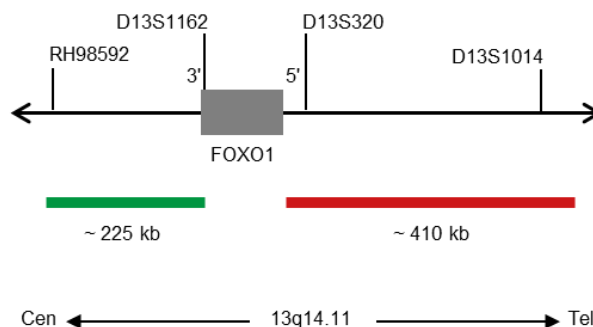

Fig. 1: SPEC FOXO1 Probe map (not to scale)
- Digoxigenin-labeled polynucleotides (~0.50 ng/ μ l), which target sequences mapping in 13q14.11* (chr13:40,908,021-41,132,595) proximal to the FOXO1 breakpoint region (see Fig. 1).
- Dinitrophenyl-labeled polynucleotides (~0.75 ng/ μ l), which target sequences mapping in 13q14.11* (chr13:41,246,897-41,654,419) distal to the FOXO1 breakpoint region (see Fig. 1).